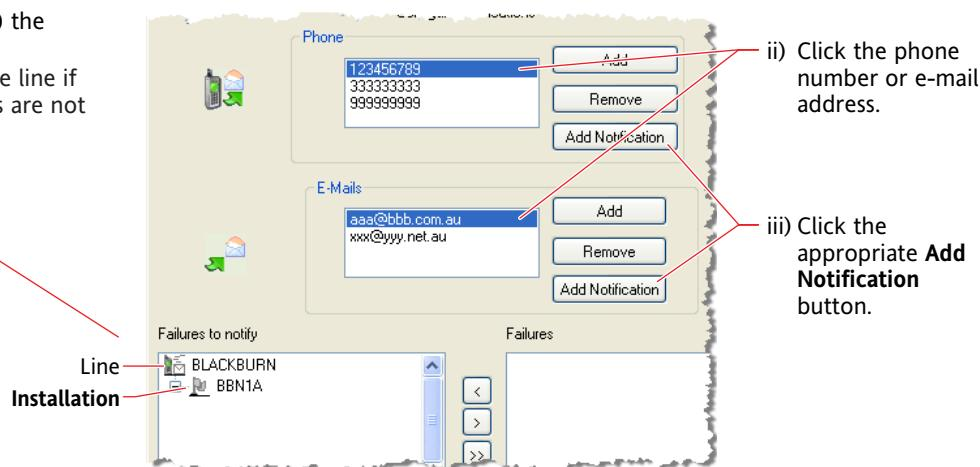

Figure 4.47 Assigning an SMS number or address to an installation
- c) Follow the steps in figure 4.47 to assign phone numbers or e-mail addresses to installations.